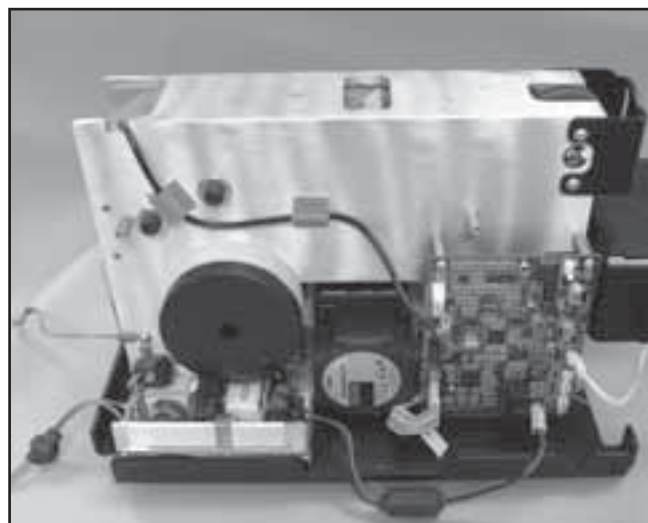

FIGURE 6.25
5. Route Load Cell Harness through Harness Clips on the Chassis and connect to Motor Control Board. See Figure 6.25.